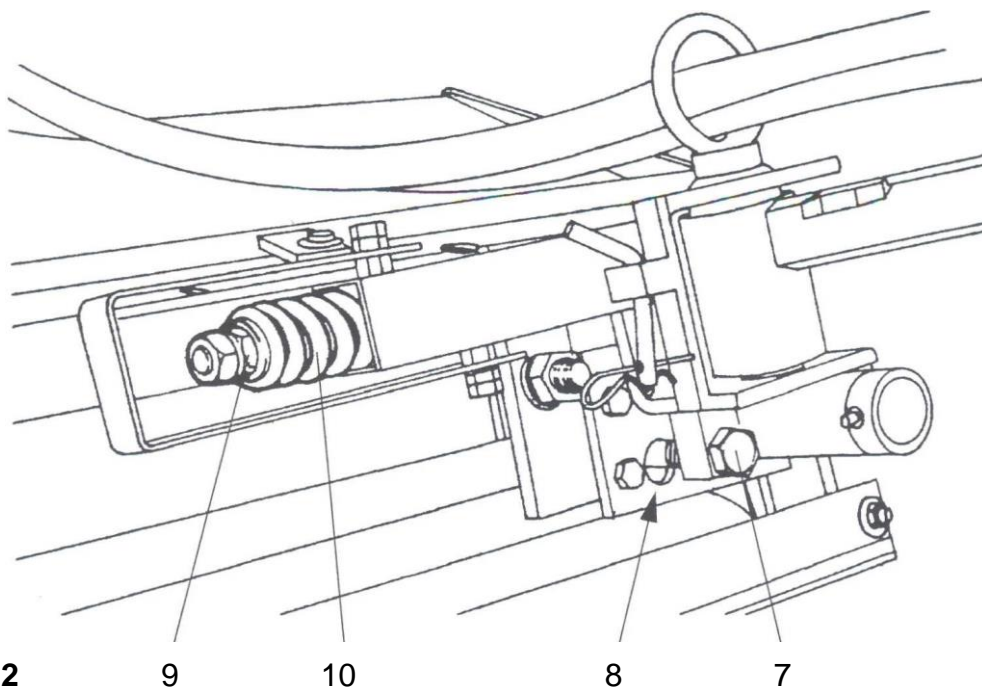

Fig. 6.2
- Put the inter-row mower back into the pin 3 and make sure that the bolt 7 is placed in the hole 8 (Fig. 6-2).
If the inter-row mower falls back to its working position adjust the nut 9, (Fig. 6-2) in order to further load the break back spring 10.